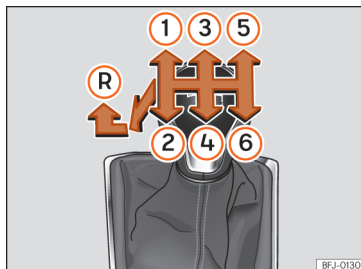

Fig. 166 Gear shift pattern of a 6-speed manual gearbox
The position of the gears is indicated on the gearbox lever »» Fig. 166.
- With the gearbox lever in neutral, push it downwards, move it to the left as far as it will go and then forwards to select reverse »» Fig. 166 .